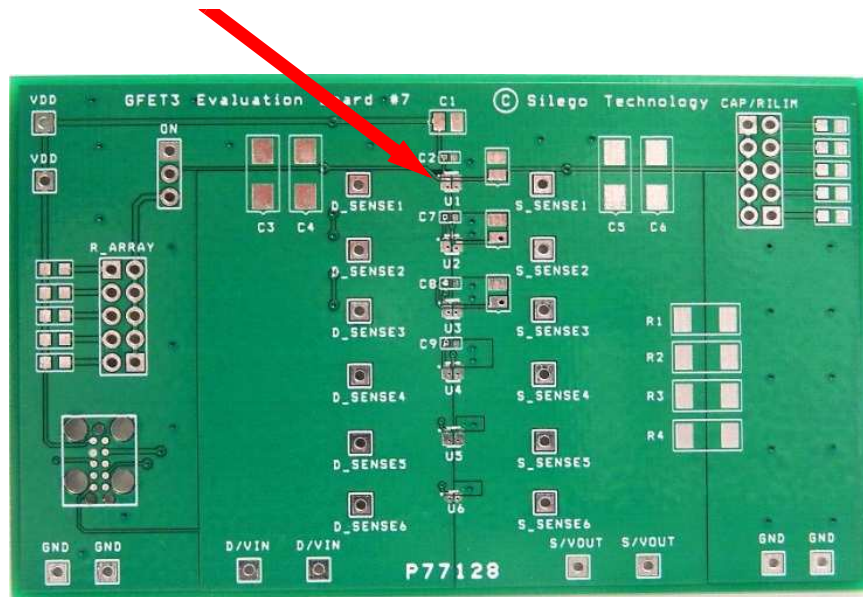

Figure 5. SLG59M1657V Evaluation Board
2. Since the D and S pins dissipate most of the heat generated during high-load current operation, it is highly recommended to make power traces as short, direct, and wide as possible. A good practice is to make power traces with an absolute minimum widths of 15 mils (0.381 mm) per Ampere. A representative layout, shown in Figure 5, illustrates proper techniques for heat to transfer as efficiently as possible out of the device;
A GreenFET Evaluation Board for SLG59M1657V is designed according to the statements above and is illustrated on Figure 5. Please note that evaluation board has D_Sense and S_Sense pads. They cannot carry high currents and dedicated only for RDS_{ON} evaluation.